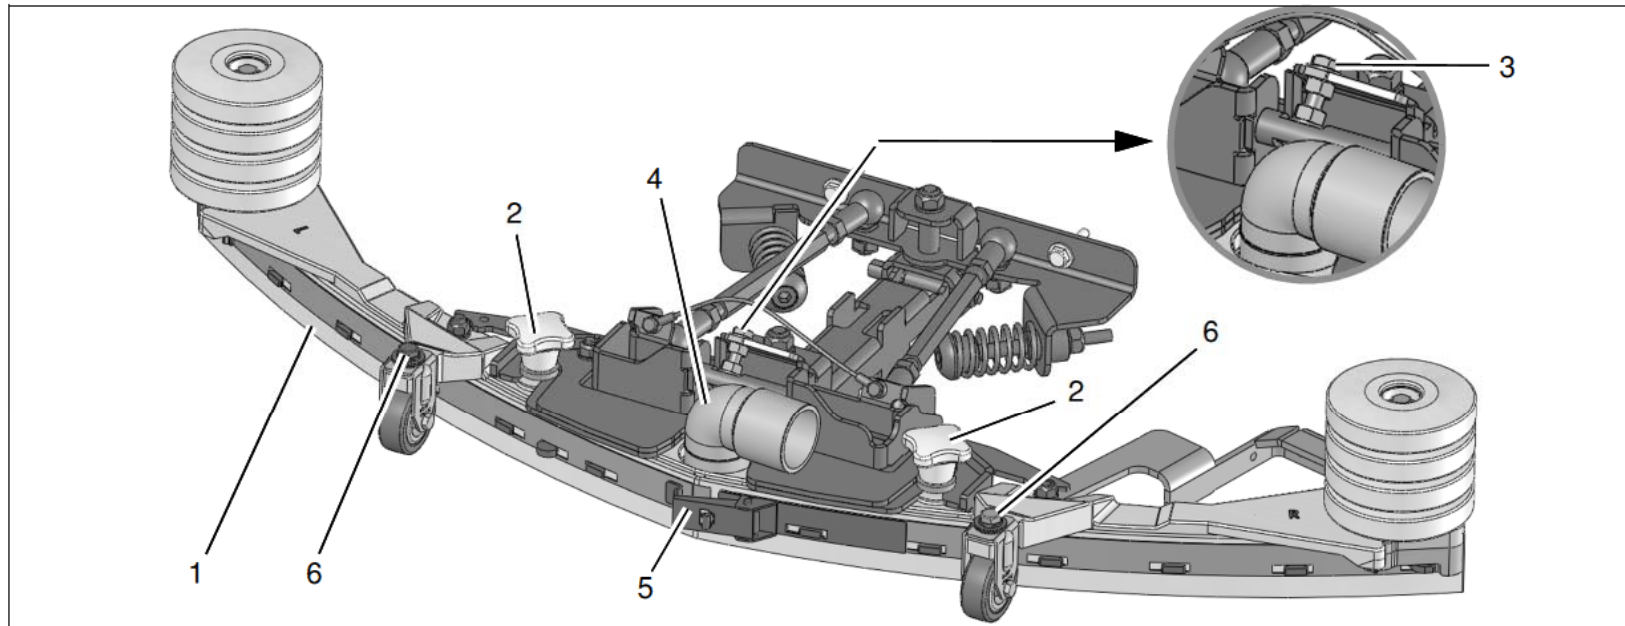

Fig. 7.1
2. Loosen the counter nut on the screw (Fig. 7.1/3) and use the counter nut to adjust the squeegee so that the ends of the sealing strips just make contact with the floor.
The height adjustment is set to 3 mm at the factory. If, despite an optimum angle adjustment, streaks are produced, the distance between the rollers and floor must be adjusted by altering the number of washers (Fig. 7.1/6 / Fig. 7.3) on the holder. In the case of very smooth floors, e.g. coated screed, PVC, linoleum etc., the number of washers = 2.